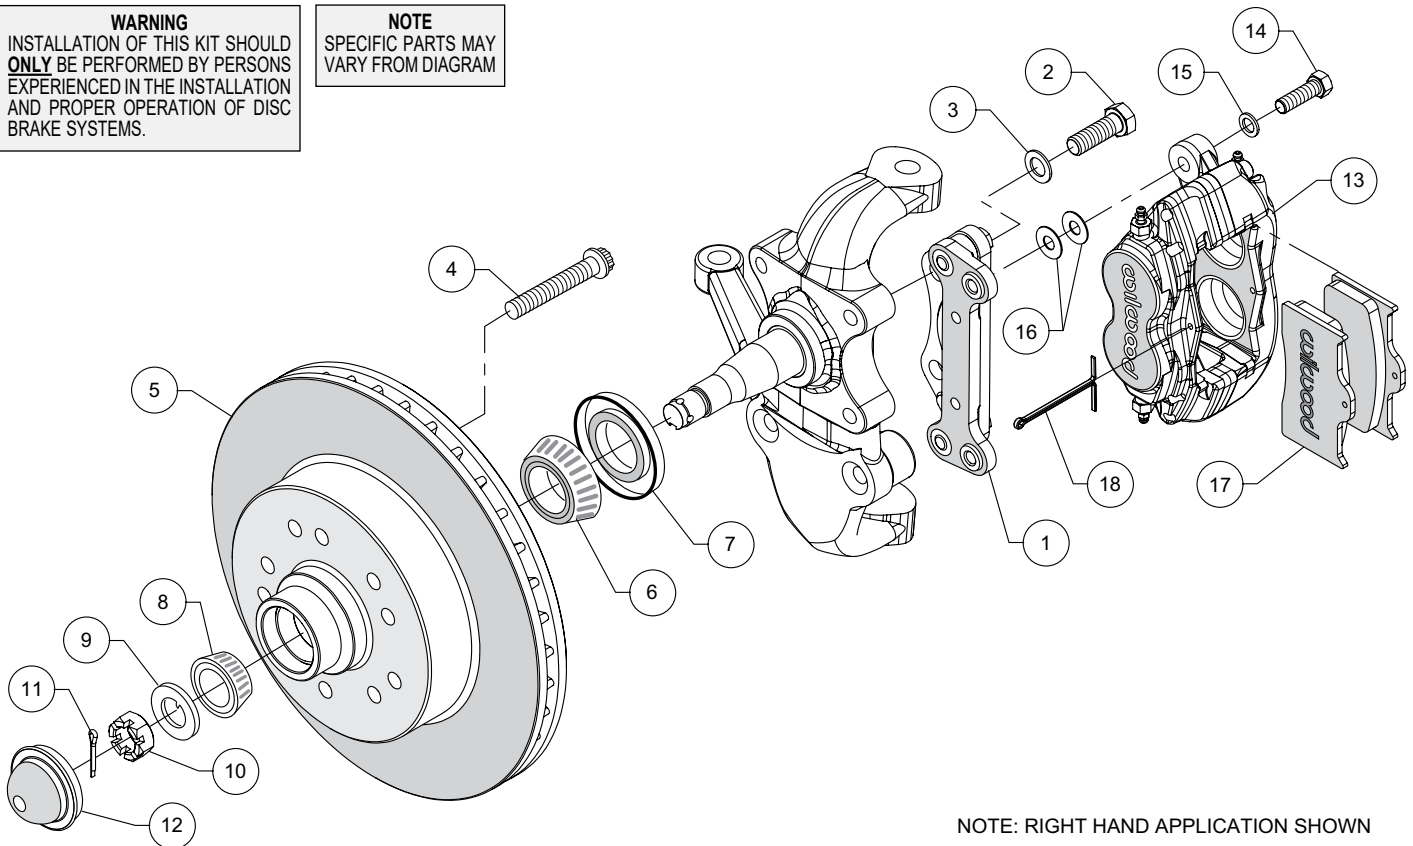

Figure 1. Typical Installation Configuration
NOTE: Numbers in parenthesis refer to the parts list and Figure 1 on the preceding pages.
•Orient the bracket as shown in Figure 1, and Photo 1. Install using bolts (2) and washers (3). Ensure that the flanged heads of the clinch nuts in the bracket are facing outboard, Photo 1. Temporarily tighten the mounting bolts. **NOTE:** The bracket must fit squarely against the mounting points on the spindle. Inspect for interference from casting irregularities, machining ridges, burrs, etc. Remove bolts one at a time, apply red *Loctite*® 271 to threads, and torque to 90 ft-lb.
•Install wheel studs (4) into the hub/rotor (5), Photo 2. Apply red *Loctite*® 271 to the threads and torque to 77 ft-lb. **NOTE:** There are two five lug patterns in the hub (5 x 4.50 and 5 x 4.75). Ensure the correct hub stud pattern is being used to fit the wheel application.
•Pack the large inner bearing cone (6) with high temperature disc brake bearing grease (available from your local auto parts store) and install into the backside of the hub/rotor (5), Photo 3.
•Install the grease seal (7) by pressing into the backside of the hub/rotor (5), flush with the end of the hub, Photo 4.
•Pack the small outer bearing cone (8) with high temperature disc brake bearing grease and install into the front side of the hub (5). Slide the hub/rotor onto the spindle, Photo 5. Secure using spindle washer (9) and spindle nut (10), Photo 6. Bearing adjustment: Tighten the nut while turning the hub. When there is a slight bind on the bearings, they are seated correctly. Back the nut off about 1/6 to 1/4 of a turn, or sufficiently to allow .001" to .007" end play. **WARNING:** Failure to back off adjusting nut could cause bearing to run hot and be damaged, which could cause the wheel to lock or come off. Install new cotter pin (11).
•Press the dust cap (12) into the hub/rotor (5), Photo 7. **NOTE:** Do not hammer center of cap. Install using outer flange only.
•**NOTE:** Please reference the caution statement at the beginning of the assembly instructions. Mount the caliper (13) onto the caliper mounting bracket (1) using bolts (14) and washers (15), as shown in Figure 1. Initially place two .035" thick shims (16) on each bolt between the caliper and the bracket, Photo 8. Temporarily tighten the mounting bolts and view the rotor (5) through the top opening of the caliper. The rotor should be centered in the caliper (13), Photo 9. If not, adjust by adding or subtracting shims between the bracket and the caliper. Always use the same amount of shims on each of the two mounting bolts. **NOTE:** The end of each bolt must be flush with or slightly protruding from the head of the clinch nut, as shown in Figure 3. If necessary place spare shims (16) between washer (15) and caliper mounting ear to achieve the proper clinch nut engagement. Once the caliper alignment and clinch nut engagement are correct, remove the bolts one at a time, apply red *Loctite*® 271 to bolt threads, and torque to 40 ft-lb.